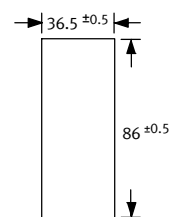

Fig. 11
– Size of the front panel cut-out in mm → Fig. 11